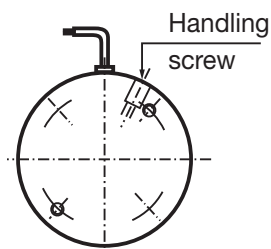

Fig. 1
-  Use the handling holes provided for any operation (See Fig. 1, table 1).